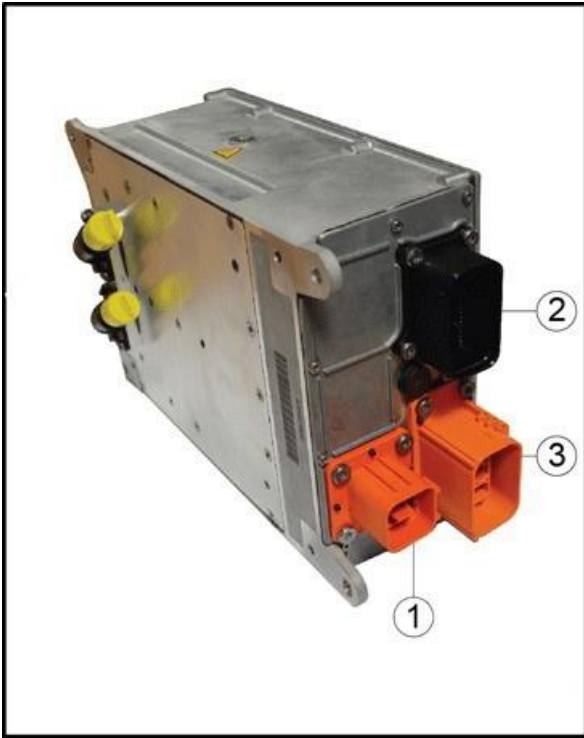

Figure 1
5) Referring to Figure 1 - Disconnect the 12V and the high voltage connections from the On Board Charger (AX4)